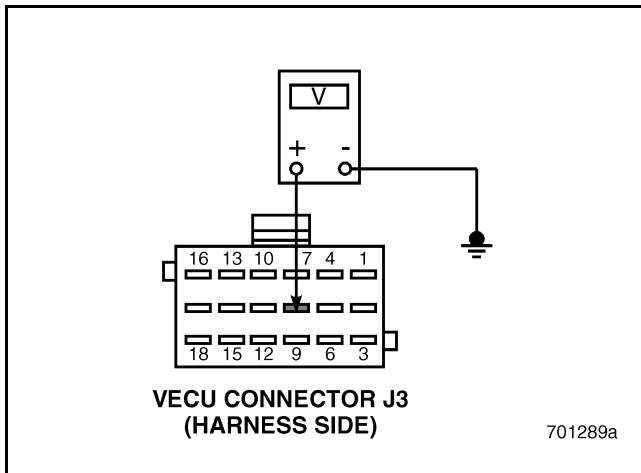

Figure 573
5. Measure the voltage between VECU connector J3 pin 8 and a good ground (see Figure 573).